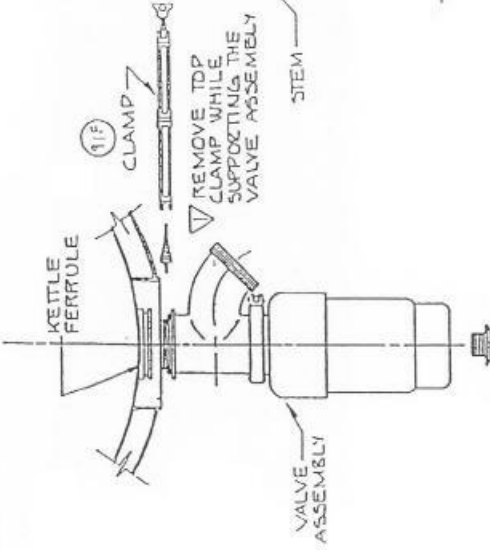
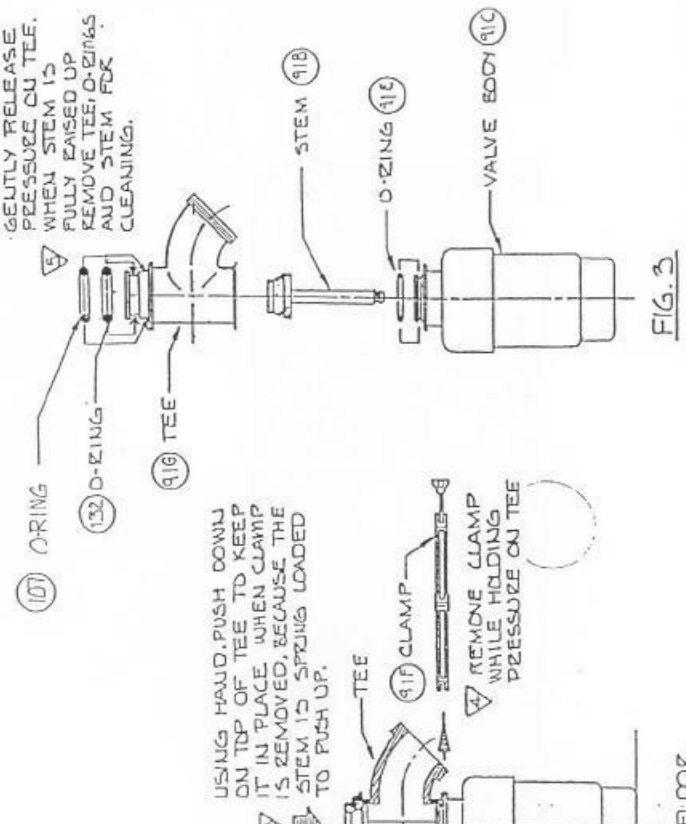

Fig. 1
FIG. 2
INSERT TOOL THAT IS PROVIDED IN AREA INDICATED IN FIG. 2. PULL UP ON SPRING ARM UNTIL SPRING ARM CLEARS GROOVE IN PIN B. GENTLY RELEASE SPRING. SPRING IS NOW DIS-ENGAGED, REMOVE SCRAPEE.
SLIDE SCRAPEE BLADE AND SPRING ON TO PIN A AS SHOWN IN FIG. 1 & FIG. 2. USING TOOL THAT IS PROVIDED, HOOK SPRING ARM & PULL UP. SLIDE ASSY ON AND HOOK SPRING ARM IN GROOVE ON PIN B AND RELEASE.
1. TO REMOVE VALVE FOR CLEANING FOLLOW STEPS  AS SHOWN IN FIG. 1, 2 & 3.